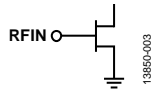

Figure 3. RFIN Interface Schematic
| 1 | RFIN | Radio Frequency (RF) Input. This pad is dc coupled and matched to 50 Ω . See Figure 3 for the interface schematic. |
| 5 | RFOUT | Radio Frequency (RF) Output. This pad is dc coupled and matched to 50 Ω . See Figure 3 for the interface schematic. |